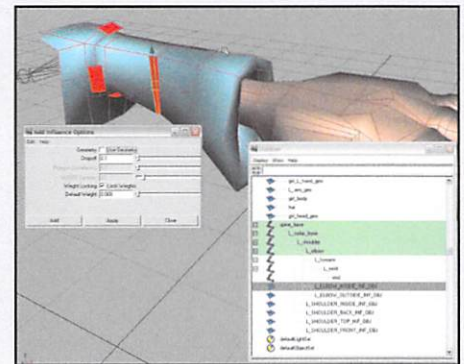

FIGURE 4—INFLUENCE OBJECTS ADDED TO THE ELBOW IN A FAIRLY TYPICAL SETUP
7. Now, when I select the L_ELBOW_IN-SIDE_INF_OBJ, the arm geometry wireframe turns purple, indicating that my influence object has an output connection to the arm geometry (see figure 4)